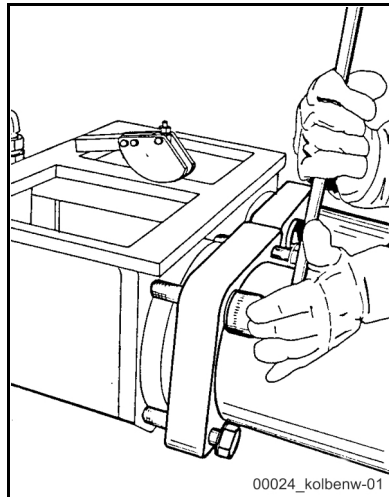

Fig. 179
- Tighten any loose fastening screws crosswise in three steps using a torque wrench (**Fig. 179**).